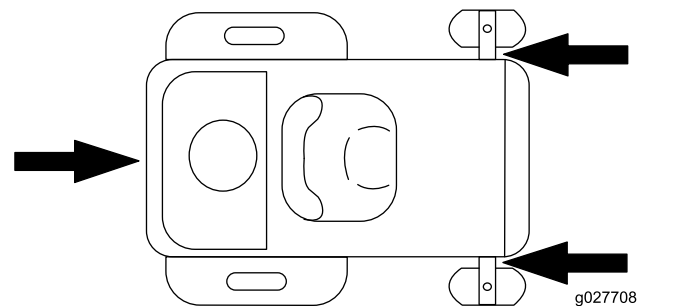

Figure 19
5. Tie down the machine near the front caster wheels and the rear bumper (Figure 19).